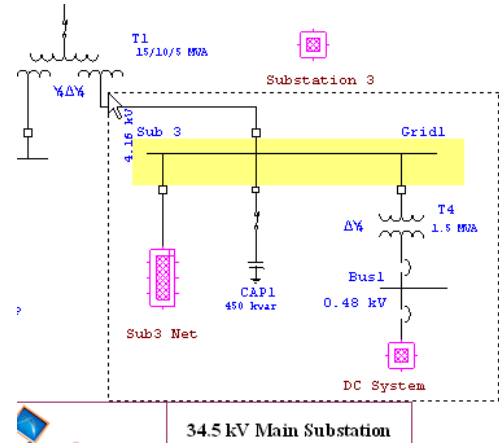

Fig. 6
- Rubber band an area enclosing all the components that will be placed to “Substation 3” composite network to select them. See Fig. 6